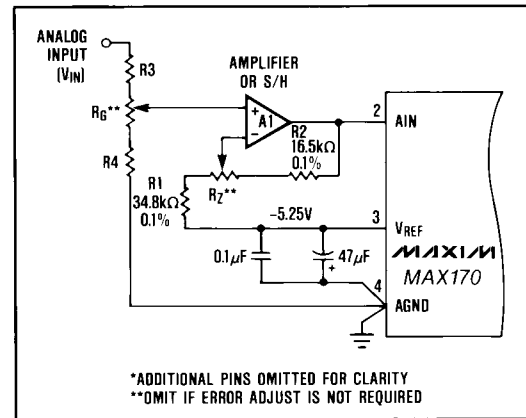
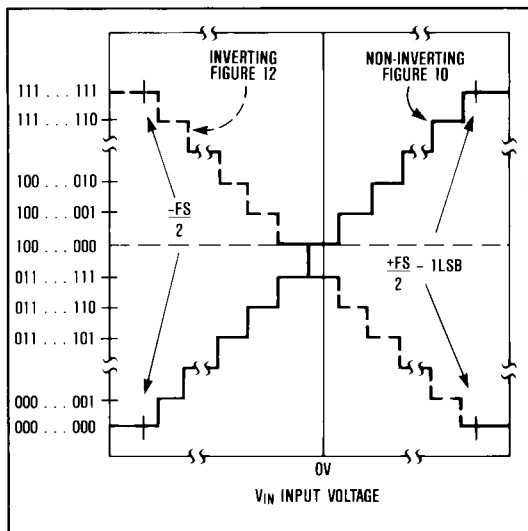
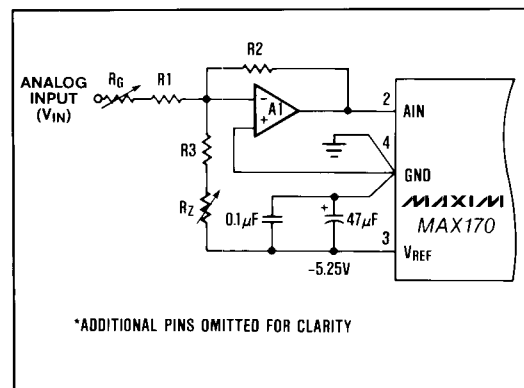

Figure 10. MAX170 Non-Inverting Bipolar Operation
Figure 11. Ideal Input/Output Transfer Characteristics for the Bipolar Circuits Shown in Figures 10 and 12
Figure 12. MAX170 Inverting Bipolar Operation
Figure 10 shows the bipolar operation in the non-inverting mode, where the output coding is offset binary. Figure 11 shows the ideal transfer function for this mode.
**Table 1. Resistor and Potentiometer Values Required for Offset and Gain Adjustment of Figure 10**
Figure 12 shows the bipolar operation in the inverting mode where the output coding is complementary offset binary. Figure 11 shows the ideal transfer function for the circuit in Figure 12.
For Non-Inverting (Figure 10) 1000 0000 0000
For inverting (Figure 12) 0111 1111 1111
For Non-inverting (Figure 10) 1111 1111 1110
For inverting (Figure 12) 0000 0000 0001
**Table 2. Resistor and Potentiometer Values Required for Offset and Gain Adjustment of Figure 12**